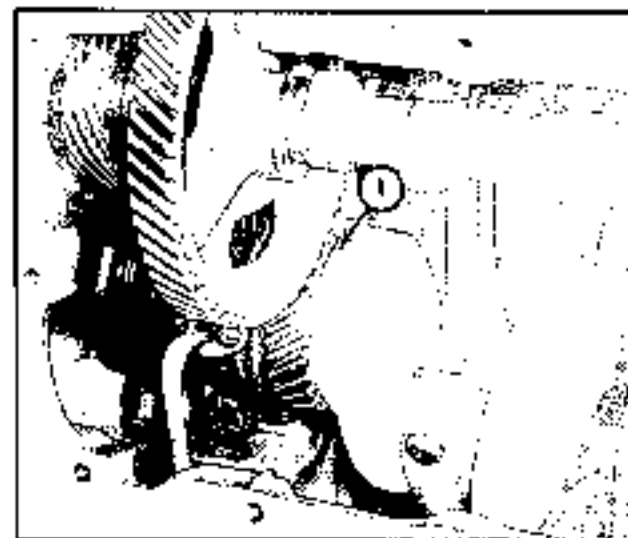

Fig. 1-28. Gear Timing Marks
d. To replace the crankshaft, first turn the engine over until the timing mark on the crankshaft throw lines up with the mark on the camshaft gear. See figure 1-28.